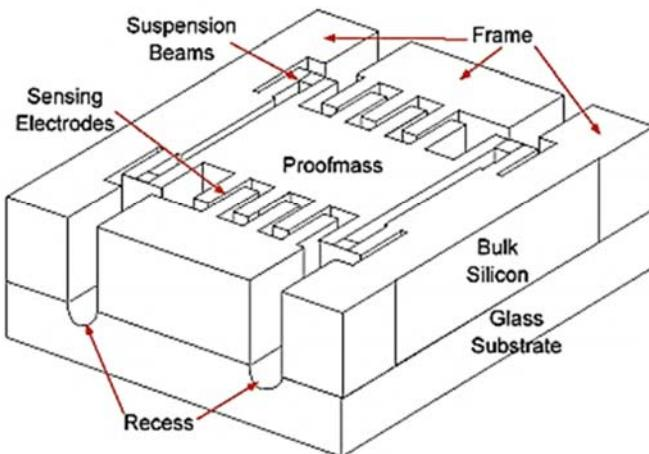

Figure 1
- (d) (i) Explain the fabrication processes of an accelerometer based on Figure 1.
- (ii) Calculate the value of capacitance at the sensing electrode for Figure 1 when the acceleration is zero. Use the following data.